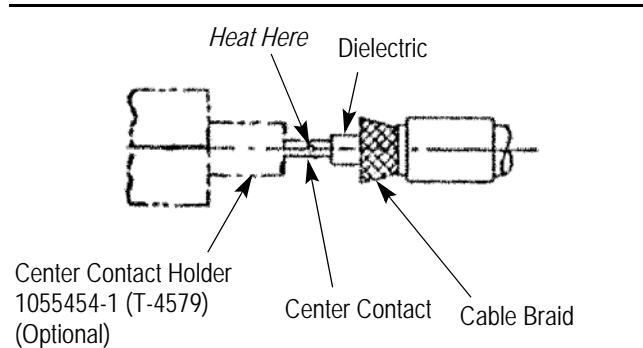

Figure 3
2.2. Soldering the Center Contact to the Cable Inner Conductor (Figure 3)